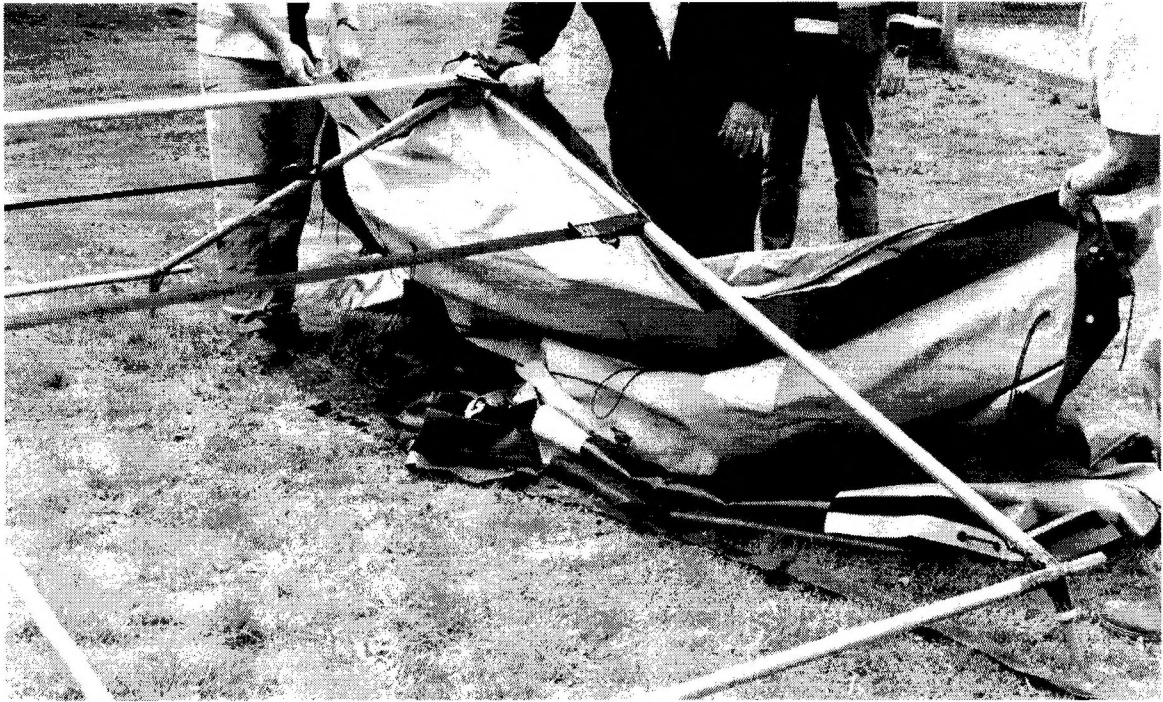

Figure 17: PVC Cover fitting over frame spigots
27. The gable PVC cover should then be fitted over the frame spigots as detailed in Fig 17 & 18.